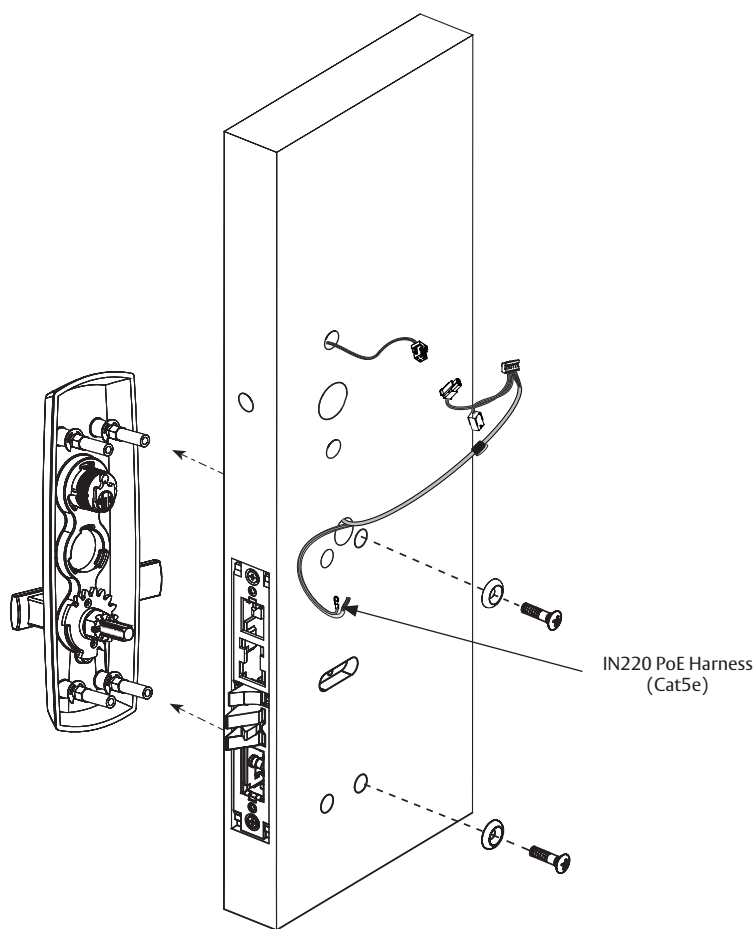

Figure 6-3B
4. Fasten trim assembly to door using two (2) 1/4-20 oval head screws and two (2) finish washers. (Figure 6-3B)